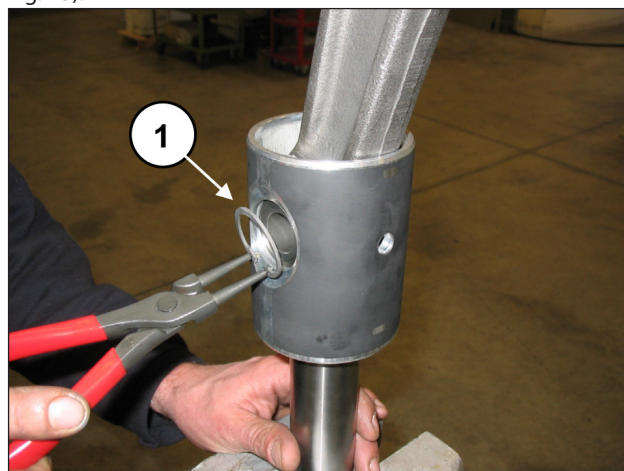
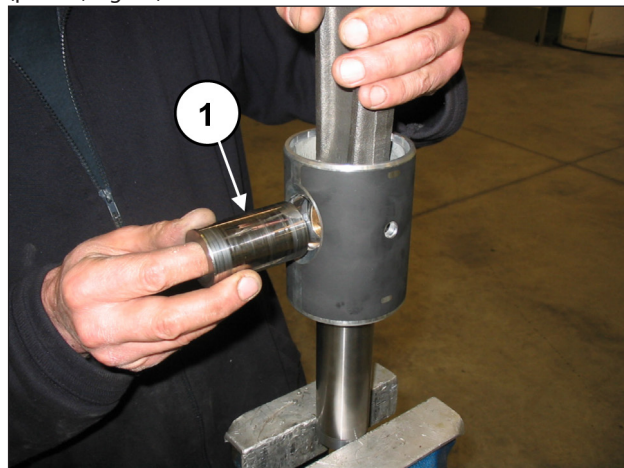
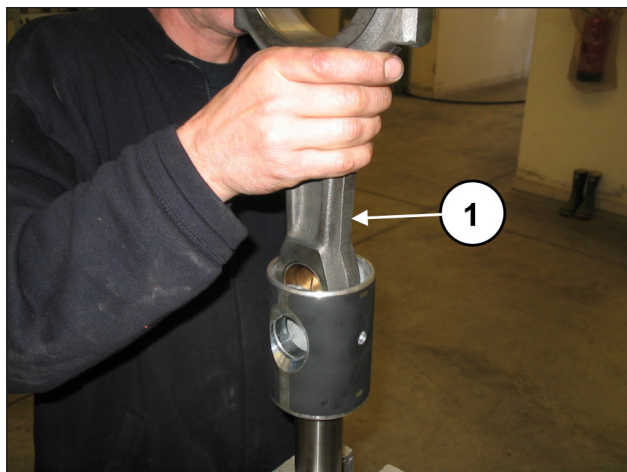

Fig. 43
Fig. 44
Fig. 45
Remove the two spindle pin circlips using circlip pliers (pos. ①, Fig. 43).
Remove the spindle (pos. ①, Fig. 44) and extract the conrod (pos. ①, Fig. 45).
Insert the conrod in the piston guide (pos. ①, Fig. 45) and then insert the spindle (pos. ①, Fig. 44). Fit the two circlips with the circlip pliers (pos. ①, Fig. 43).